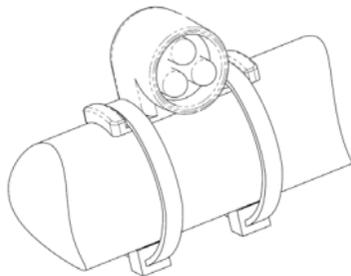

Figure 2
- Fasten with *Cable Ties* as shown in Figure 2.